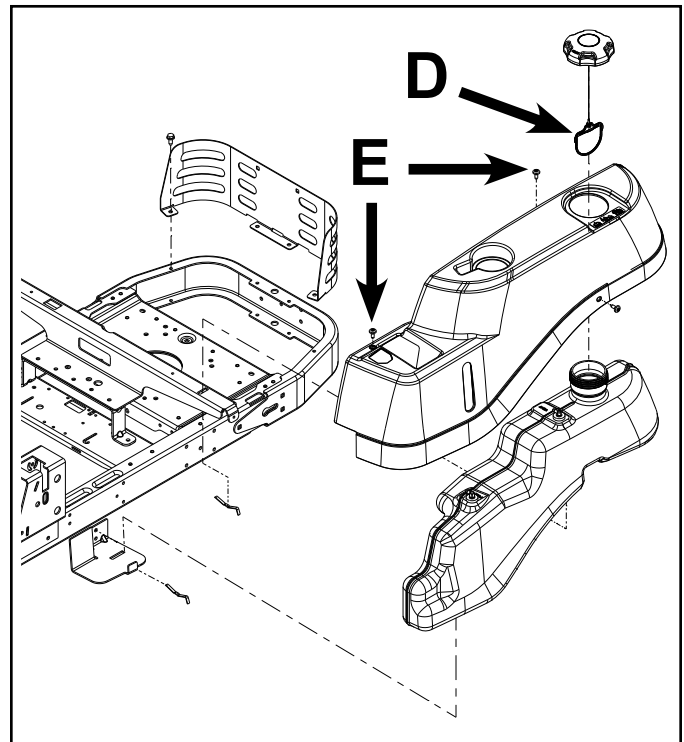

Fig. 012
3. Remove the (3) screws (E) securing the LH fender to the unit frame (Fig. 012).
2. Install the (3) screws (E) that secure the LH fender to the frame and torque to specification – 7 ft-lbs. (9 Nm).
4. Connect battery terminals, and lower seat. (Fig. 012)